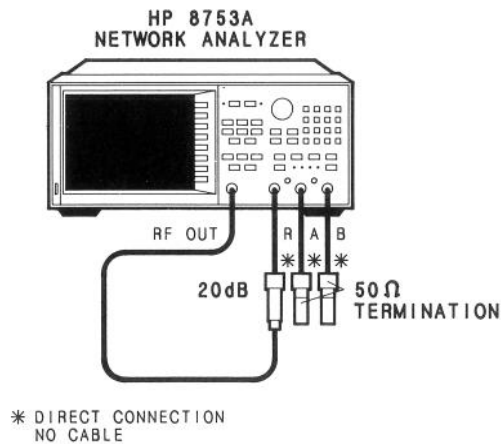

Figure 3. Noise Level Test Setup
1. Connect the equipment as shown in Figure 3. Press **[PRESET]**. The IF bandwidth is now 3 kHz, the default value assigned when the instrument is preset.